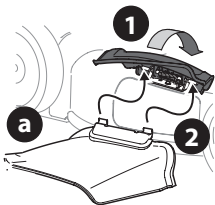

Figure 8
1. Lift the mulch plug (Figure 8).